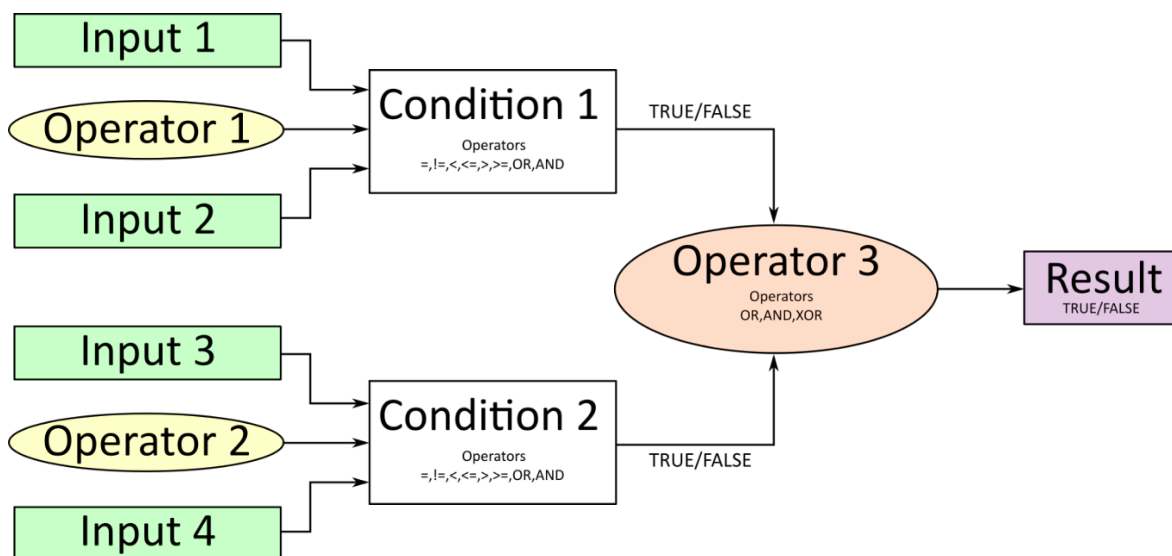

Figure 4: Conditional Block Diagram
The Conditional Block compares up to four different input sources with different logical or relational operators. The result of each block can therefore only be true (1) or false (0). Figure 4 demonstrates the connections between all parameters.